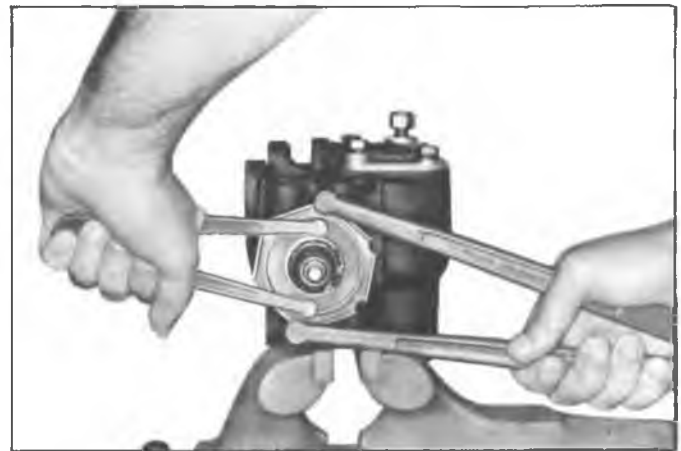

Fig. 60—Locking Preload Adjustment
- b. Adjust thrust bearing preload to obtain $\frac{1}{2}$ to 2 in. lbs. in excess of valve assembly drag. Tighten adjuster plug locknut 80 ft. lbs. using Spanner Wrench J-972 while holding adjuster plug in position with Tool J-7624 (fig. 60).